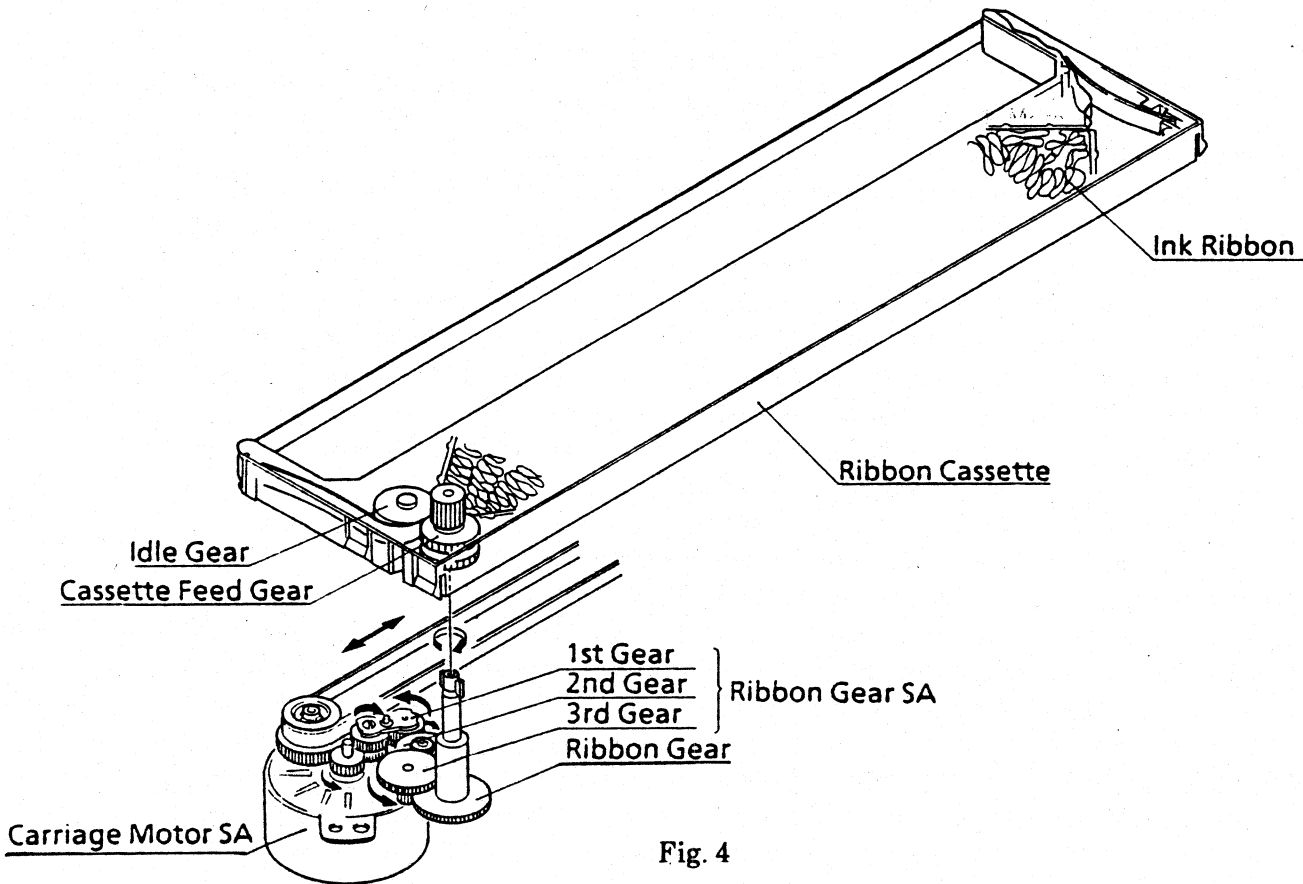

Fig. 4
(1) Ribbon feed operation (See Fig. 4)
(2) Ribbon cassette mechanism (See Fig. 4)